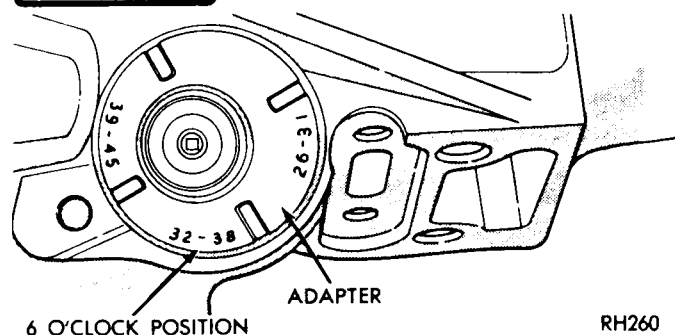
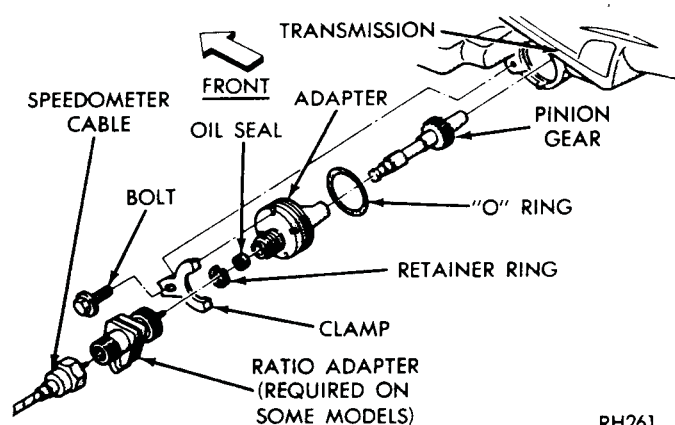

Fig. 1—Speedometer Pinion and Adapter
Fig. 2—Speedometer Drive
- (1) Place drain pan under speedometer adapter.
- (2) Remove bolt and retainer securing speedometer pinion adapter in the extension housing (Fig. 1).
- (3) With cable housing connected, carefully work adapter and pinion out of the extension housing.
- (4) If transmission fluid is found in cable housing, replace seal in the adapter (Fig. 2). Start seal and retainer ring in the adapter, then push them into adapter with Tool C-4004 until tool bottoms (Fig. 3).
(5) Note number of gear teeth and install speedometer pinion gear into adapter.
(6) Rotate the speedometer pinion gear and adapter assembly so that the number on the adapter, corresponding to the number of teeth on the gear, is in the 6 o'clock position as the assembly is installed (Fig. 1).
(7) Install retainer and bolt, with retainer tangs in adapter positioning slots. Tap adapter firmly into the extension housing and tighten retainer bolt to 100 in. lbs. (11 N-m). Refill transmission.
(1) Mark parts for reassembly then disconnect propeller shaft at rear universal joint. Carefully pull shaft assembly out of the extension housing.
(2) Remove speedometer pinion and adapter assembly (Fig. 1). Drain approximately two quarts of fluid from the transmission.
(3) Remove bolts securing extension housing to the crossmember. Raise transmission slightly with service jack, then remove center crossmember and support assembly.
(4) Remove extension housing to transmission bolts.